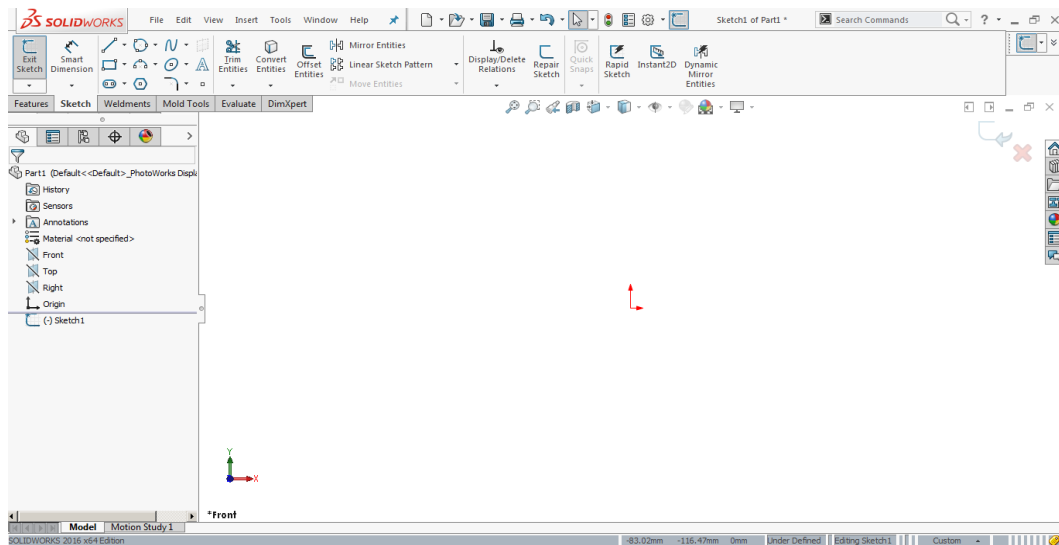

Figure 2-59 Screen display in the sketching environment
5. Select the **Front Plane** from the drawing area; the sketching environment is invoked and the plane gets oriented normal to the view. You will notice that red colored arrows are displayed at the center of the screen, indicating that you are in the sketching environment. Also, the confirmation corner with the **Exit Sketch** and **Cancel** options is displayed on the upper right corner in the graphics area. The screen display in the sketching environment of SOLIDWORKS 2016 is shown in Figure 2-59.